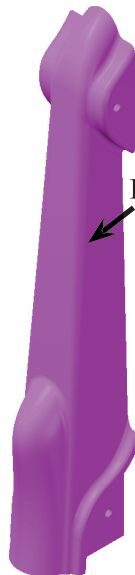

Fig. 8
Step 6. Click the solid body again to select it and **press ENTER**, Fig. 8.